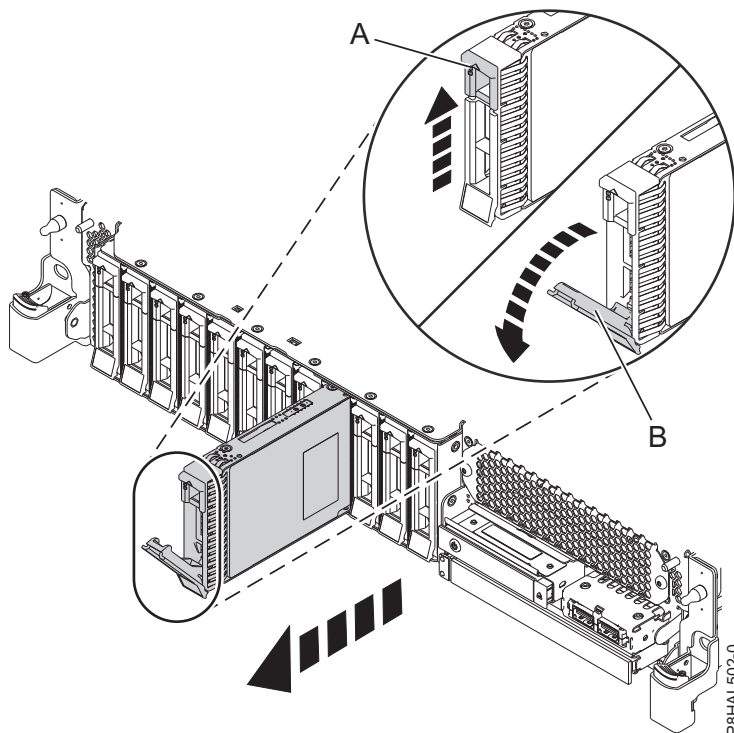
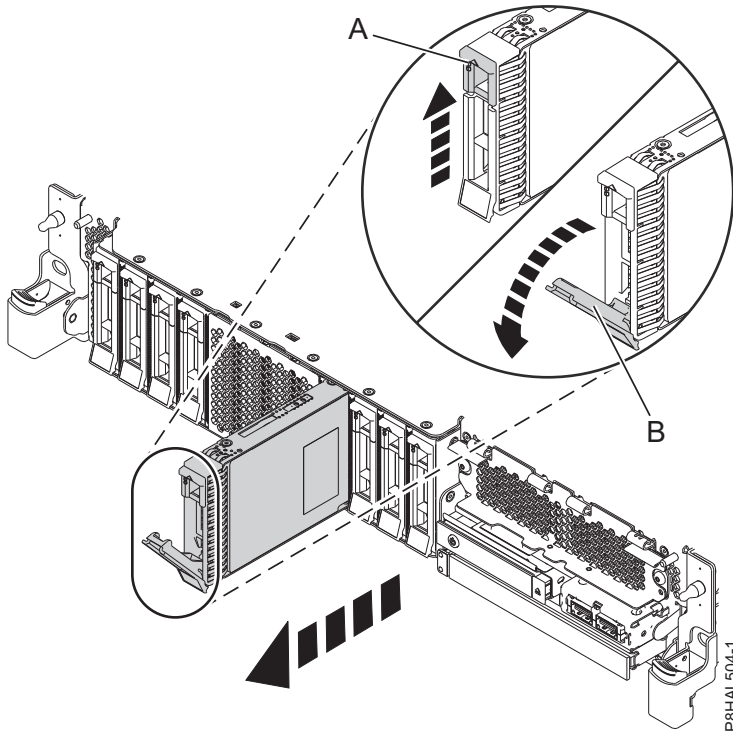

Figure 62. Removing a disk drive from a base function system
Figure 63. Removing a disk drive from an expanded function system
4. When the identify LED turns on solid, unlock the drive bay handle (**B**) by pressing the handle latch (**A**) and pulling it out toward you, as shown in Figure 62 and Figure 63 on page 64. If the handle is not all the way out, the solid-state drive cannot slide out of the system.